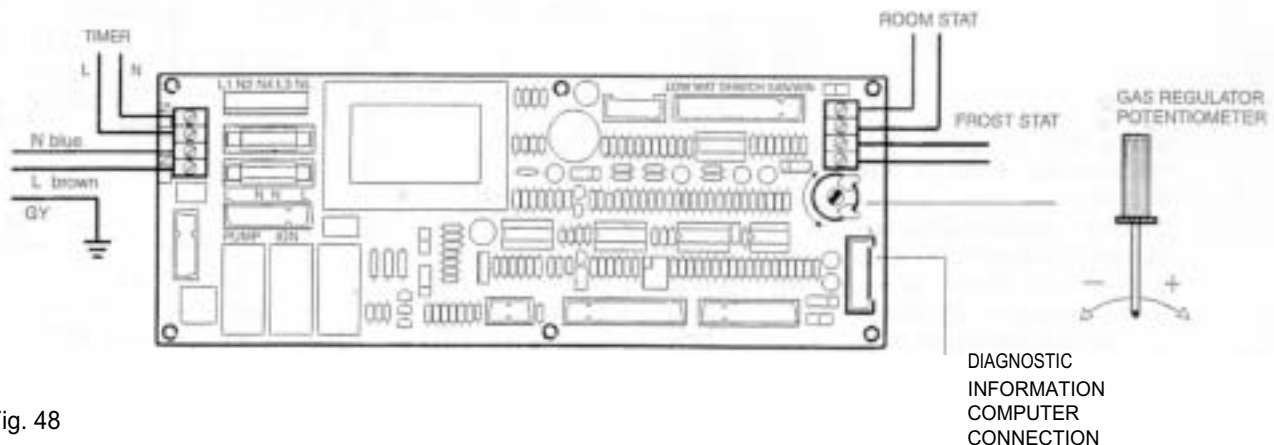

Fig. 48
- The terminals are easily visible on the front of the electronic control board (Fig. 48).
- With boiler operating use a screwdriver to turn potentiometer (Fig. 48) clockwise to increase pressure and anti-clockwise to decrease pressure.